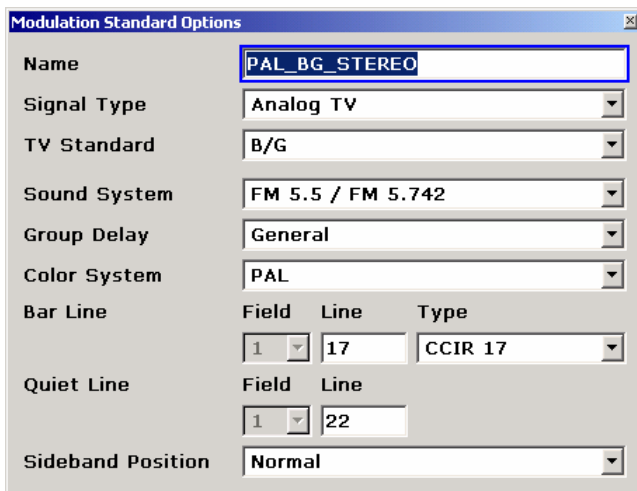
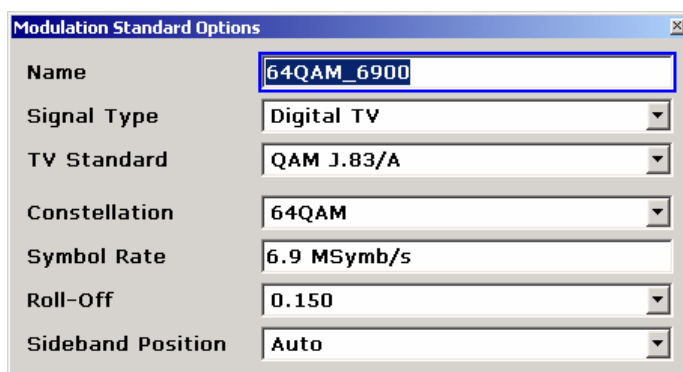

Fig. 2-62 **Modulation Standard Options** dialog box for analog TV
Fig. 2-63 **Modulation Standard Options** dialog box for digital TV
For detailed information on channel tables refer to section Channel tables, for modulation standards refer to section Modulation standards. A detailed example is provided in section Example: Creating a channel table. Fig. 2-60 gives an example of a channel table that references the modulation standard "PAL_BG_STEREO". Fig. 2-62 shows that modulation standard.
Most important when dealing with modulation standards is the order of the parameters. Modulation standards (see Fig. 2-62) have always to be created and edited from top to bottom of the **Modulation Standard Options** dialog box. The most important parameters are located at the top of the dialog box. For example, changing the signal type from **Analog TV** to **Digital TV** also alters the complete set of parameters below. Whereas the modulation technique for transmitting the color information is essential
in analog TV systems (see **Color System** in Fig. 2-62), it does not exist for digital TV systems. The constellation instead is crucial in digital TV systems (see Fig. 2-63). For that reason the Cable TV Measurements option automatically guides you through the whole process of creating a new modulation standard and only confronts you with mandatory parameters.
For analog TV the **Modulations Standard Options** dialog box (see Fig. 2-62) is structured as follows:
- The channel table references modulation standards by their **Name**. Its name (see Fig. 2-63) should comprise information about the used TV standard, the color system and the sound system, e.g. "PAL_BG_STEREO".
- The channel table references modulation standards by their **Name**. Its name (see Fig. 2-63) should comprise information about the used constellation and the symbol rate, e.g. "64QAM_6900".